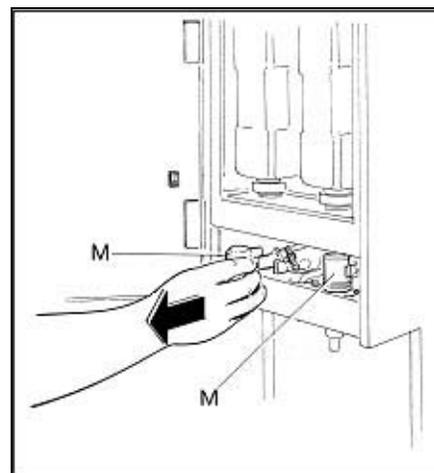

FIGURE 14
6. Remove the mixing chamber (M) by pulling it forward, see FIGURE 14.